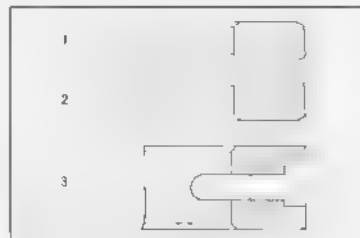

Fig. 3.46 Piston ring
To prevent flitter the thickness of the rings are made narrower and thicker. Nertia is made smaller to increase the pressure against the cylinder wall. Further the top and second rings are made at a slight lap so where (1) contacts the cylinder wall so that the time required for wear-in is lessened (Fig. 3.46, 3.47).